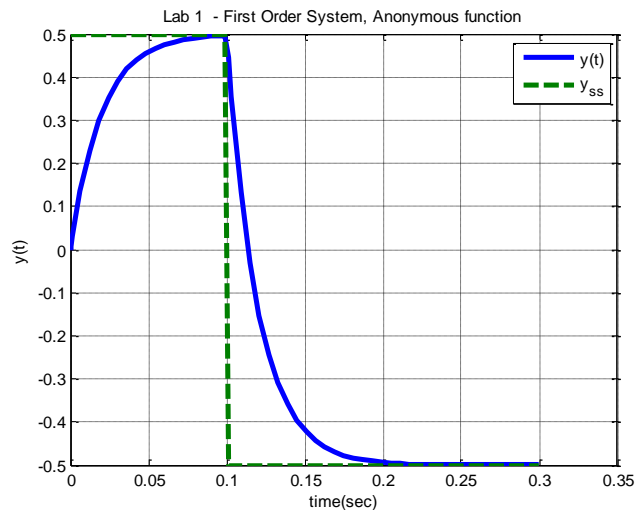

Figure 20: Step Response with an Anonymous Function
5. The first piece of code after the comment is the definition of  $x(t)$ . The second line of code tells MATLAB to generate an array of time values for 0 to  $T_f$ , and use 300 evenly spaced points. The third line of code puts the data in the correct form for Simulink. The apostrophe means to take the transpose, the brackets  $[]$  mean form an array, and  $x(t)$  tells MATLAB to evaluate the function  $x$  at the specified times  $t$ . (Note that you might feel that it would be easier to use MATLAB's Heaviside function here, but sometimes Simulink complains, since MATLAB defined the Heaviside function evaluated at zero to be not a number (NAN).) Comment out the axis command and run your code, you should get a graph like Figure 20.